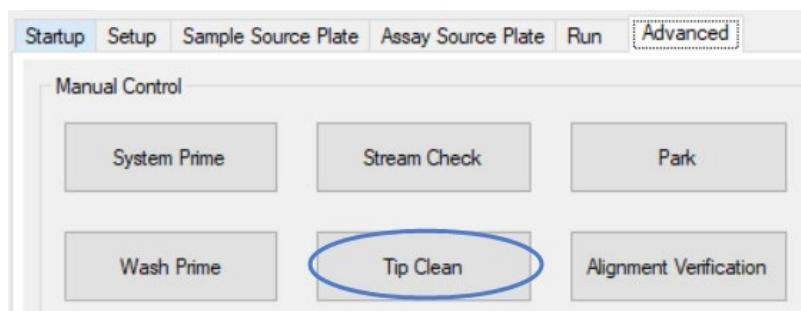

Figure 22. The [Tip Clean] button in the **Manual Control** section.
2. Click the [Tip Clean] button in the **Manual Control** section (Figure 22).
**NOTE:** The other buttons on the *Advanced* tab located under the buttons shown in Figure 22 are reserved for use by a certified Field Service Engineer. Customers are discouraged from using these.